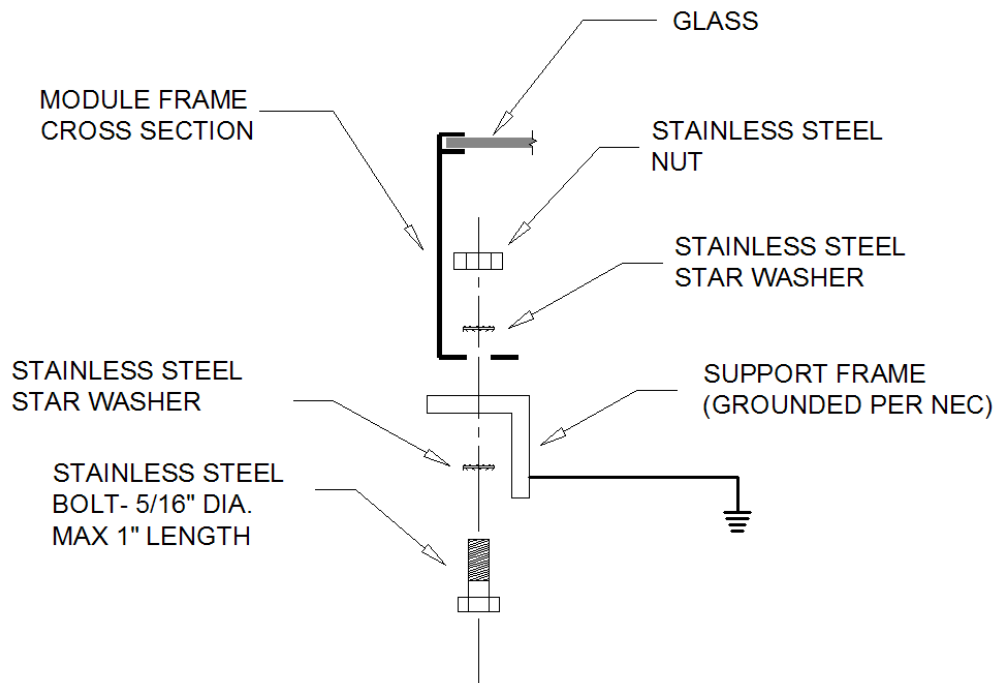
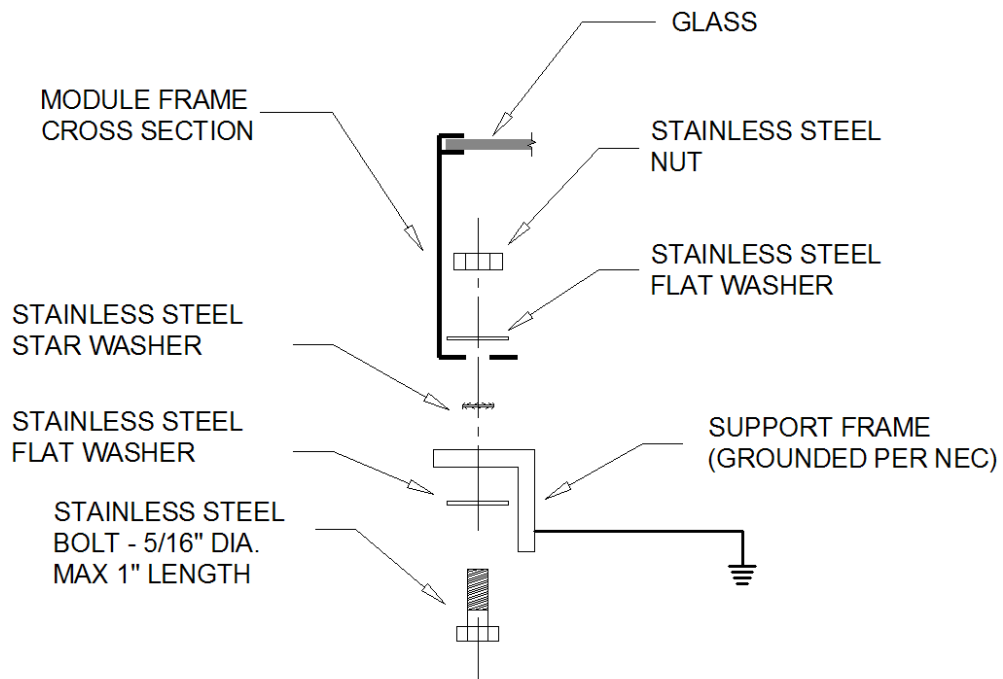

Figure 9 – Bonding the Module to Support Structure
Figure 10 – Bonding the Module to Support Structure (Alternate Approach)
3. You may use a stainless steel bolt with star washers to bond the module to the support structure frame. The bolt should be 5/16" diameter. Star washers must be used to make contact through the anodization of the module. If the support frame is anodized, you must use a star washer to make contact as well. You must either put a star washer between the module and the support structure, or you must place a star washer under the bolt head and another under the nut. See also Figure 9 and Figure 10.